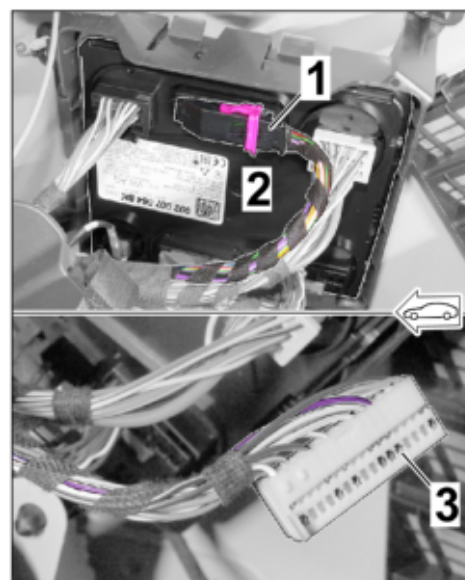

Figure 10
⇒ *Figure 10*
- Remove connector C (black) from BCM2 and open it. ⇒ *Figure 10 -2-*